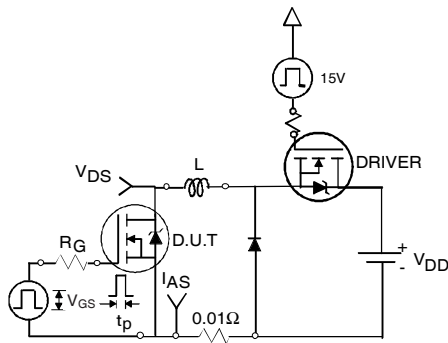

Fig 12a. Unclamped Inductive Test Circuit
- ③ Pulse width $\leq 1.0\text{ms}$; duty cycle $\leq 2\%$.
- ④ $C_{oss \text{ eff.}}$ is a fixed capacitance that gives the same charging time as C_{oss} while V_{DS} is rising from 0 to 80% V_{DSS} .
- ⑤ Limited by T_{Jmax} ; see Fig.12a, 12b, 15, 16 for typical repetitive avalanche performance.
- ⑥ This value determined from sample failure population. 100% tested to this value in production.
- ⑦ This is applied to D²Pak, when mounted on 1" square PCB (FR-4 or G-10 Material). For recommended footprint and soldering techniques refer to application note #AN-994.
- ⑧ R_θ is measured at T_J of approximately 90°C .
3. Equation below based on circuit and waveforms shown in Figures 12a, 12b.